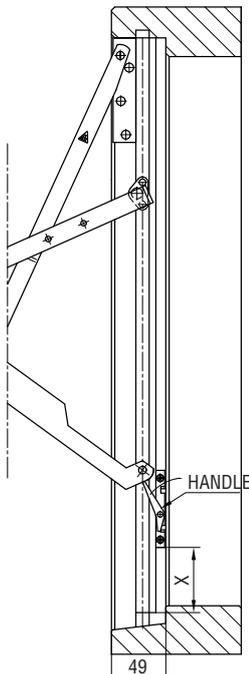

FIG. 1
1. THE FITTING IS PLACED IN RIGHT SIDE FRAME, SEEN FROM THE INSIDE. PLACE THE FITTING AGAINST THE REAR EDGE OF THE ALUMINIUM RAIL, SEE FIG. 1.
2. THE WINDOW CAN BE CLOSED BY OPENING IT ANOTHER 2 CM, AND PULLING THE HANDLE BACKWARDS, THEN CLOSE THE WINDOW AND LET GO OF THE HANDLE WHEN THE BOTTOM ARM OF THE FITTING HAS PASSED THE FIRE-ESCAPE CATCH, SEE FIG. 1.